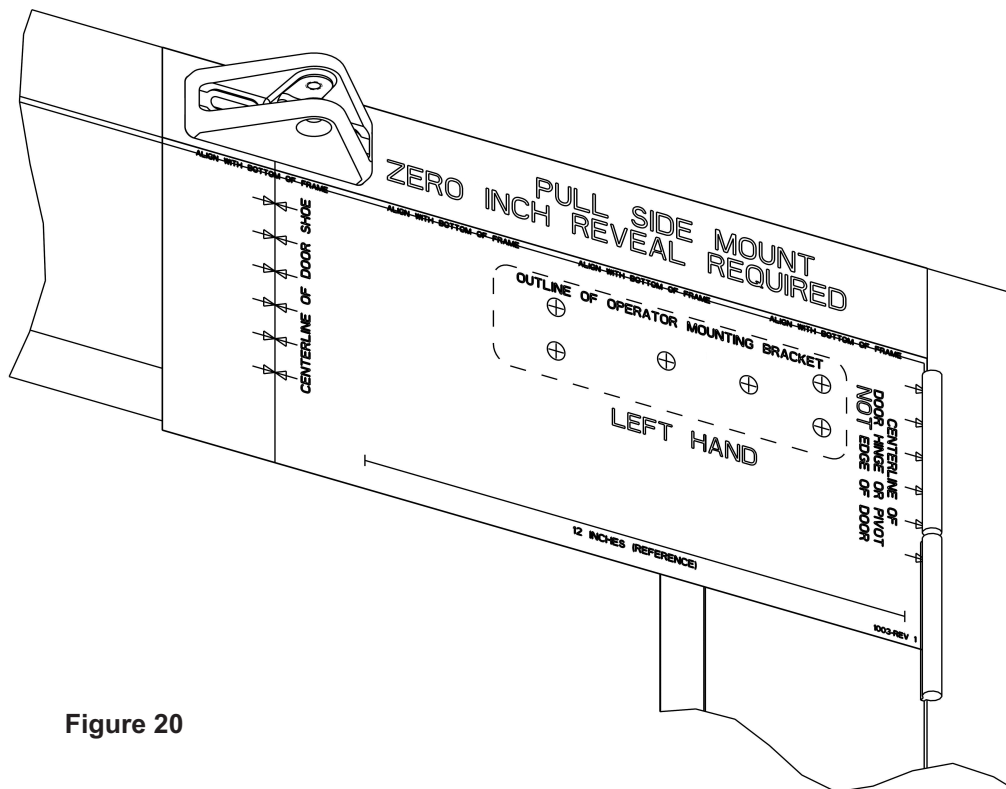

Figure 20
1. If the door frame is steel or aluminum and rivnuts must be installed, refer to Figure 20 and PERFORM the following: